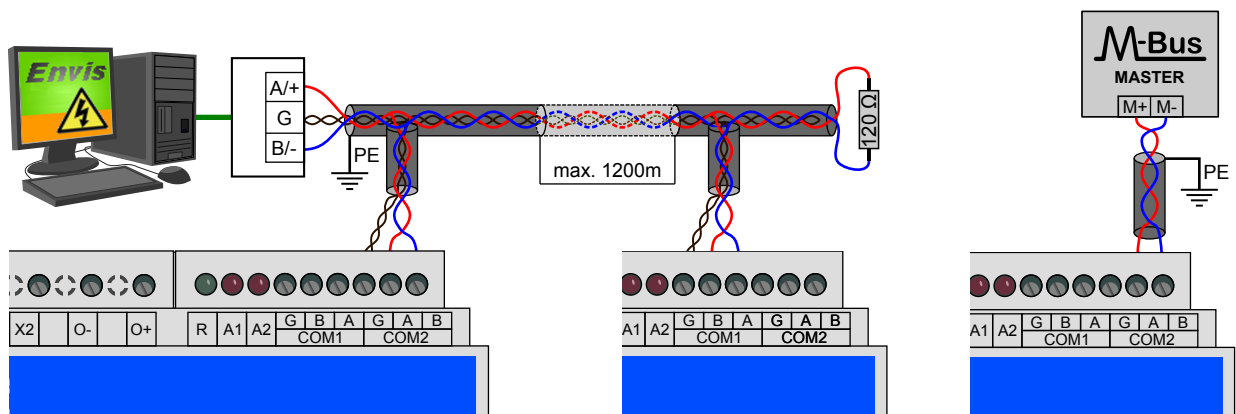

Figure 6: Typical wiring of the RS-485 communication line terminals in PA 144 or optional M-Bus (right).
**RS-485 Serial Line** serves usually as a remote communication for reading of actual data and device configuration. Serial RS-485 line uses terminals *A*, *B* with shielding at terminal *G* of *COM1* block (fig. 6). The final points of the communication line must be properly terminated with resistance.
**Secondary RS-485 (optional)** communication line serves for connection of external I/O modules or remote display unit. Secondary RS-485 line uses terminals  $A/2$ ,  $B/1$  with shielding at terminal  $G$  of  $COM2/DI$  block (fig. 6). The final points of the communication line have to be fitted with terminating resistance.
**M-Bus interface (optional)** is intended for remote reading of gas or electricity meters. M-Bus interface uses terminals  $A/2$  and  $B/1$  of  $COM2/DI$  block on fig. 6 (right). Polarity of the connection is free.